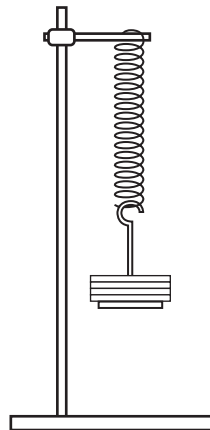

Fig. 1.1
- 1 (a) A spring is loaded with a mass of 250 g and comes to rest as shown in Fig. 1.1. In Fig. 1.1 the size and direction of the forces acting on the **mass** in this position.